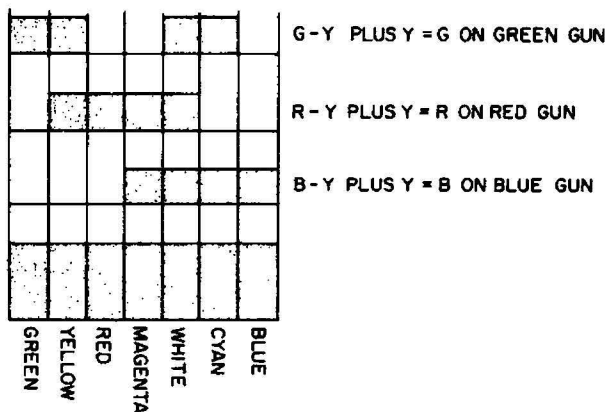

Fig. 8-13. The standard NTSC color-bar pattern.
A standard NTSC signal produces one red, two green, and one blue bar on the screen of a correctly aligned color receiver. The bars are overlapped to produce the full range of color bars, as illustrated in Fig. 8-13. When the blue and green guns are cut off, only a red bar appears on the screen. Viewing only the red bar ($R-Y$ plus Y) provides a quick check of the $R-Y$ demodulator and the luminance (Y) channel. When the $R-Y$ or Y signals appearing on the grid and cathode of the color picture tube are incorrect, the red bar will display uneven shading. Because the luminance channel is generally trouble-free, the $R-Y$ channel is probably at fault here. Try varying the amplitude of the color signal by turning the color saturation or intensity control, or by changing the phase with the hue control.